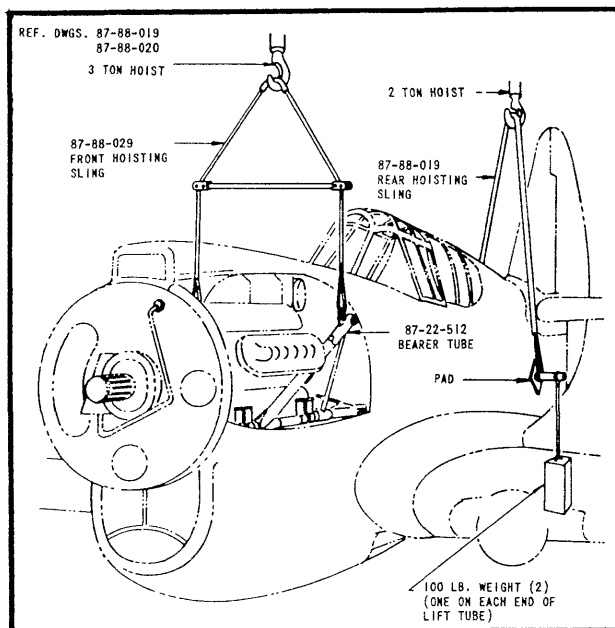

Figure 11 - Hoisting Slings - Front and Rear
provided on the engine mount, approximately 3 inches forward of the firewall, station 1. Remove the side sections of the engine cowl to expose the lugs. (See figure 11.)
(3) A tail hoisting sling (87-88-019) is also provided with every 9 airplanes. By attaching the sling to a tail lifting bar, passed through the lift tube, the aft end of the airplane may be raised. (See figure 11.)